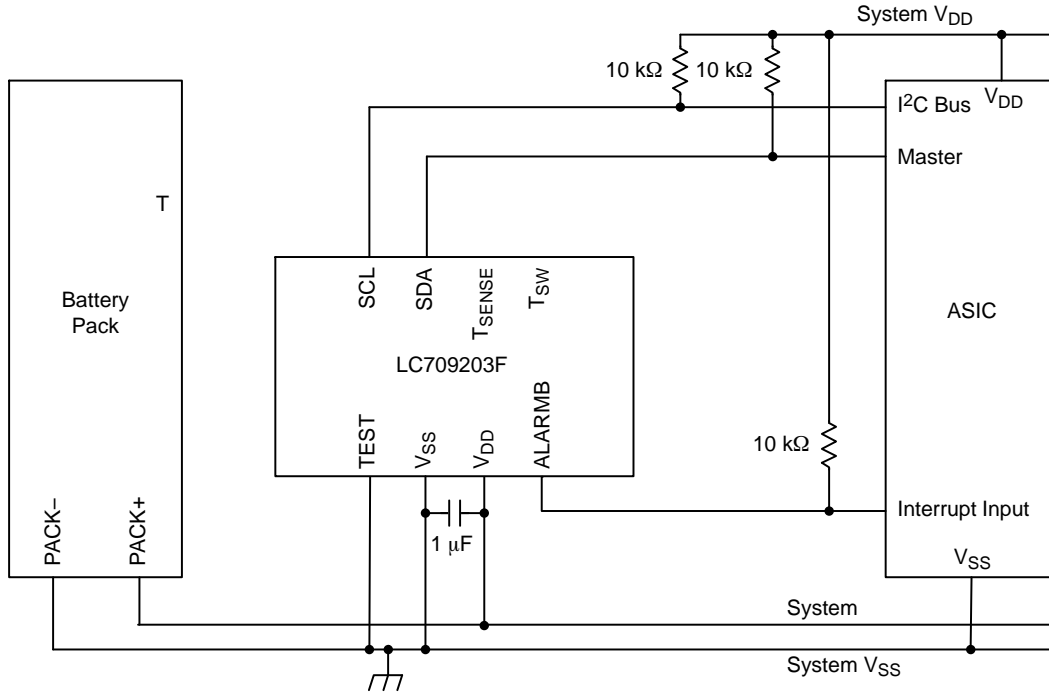

Figure 1. Example of an Application Schematic using LC709203F (Temperature Input via I2C)
1.  $T_{SW}$  and  $T_{SENSE}$  must be disconnected as Figure 1 when not in use.